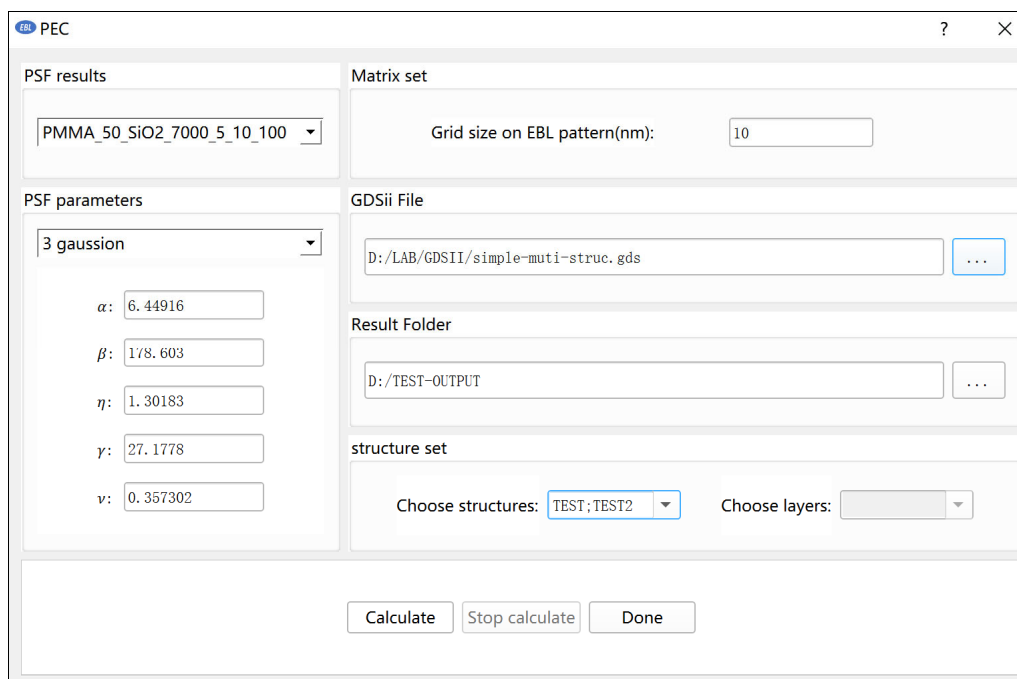

Figure 2.6.1 Set PEC
- 1) You can click "PEC" on the toolbar at the top of the main interface (Figure 2.6.1) to complete the settings of PEC.
- 3) In the "fitting function", you need to select a fitting formula. The Figure 2.6.1 selects the three Gauss function for PEC.